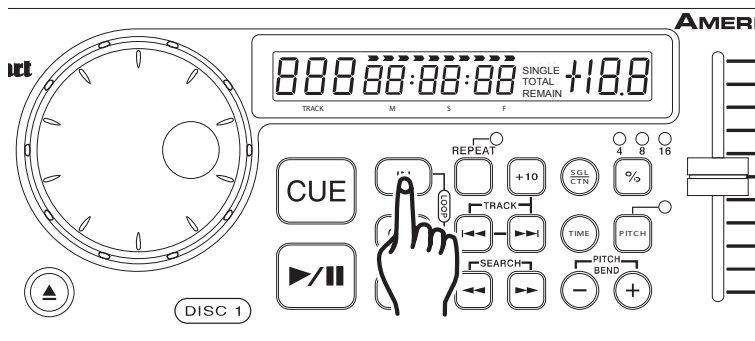

Figure 17
2) Press the LOOP IN BUTTON (4). This will set the starting point of the Loop (figure 17). The LOOP BUTTON LED will blink.